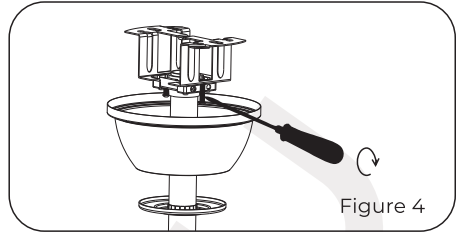

Figure 4
3. Screw the hanging head and hanger together to secure them (Figure 4).